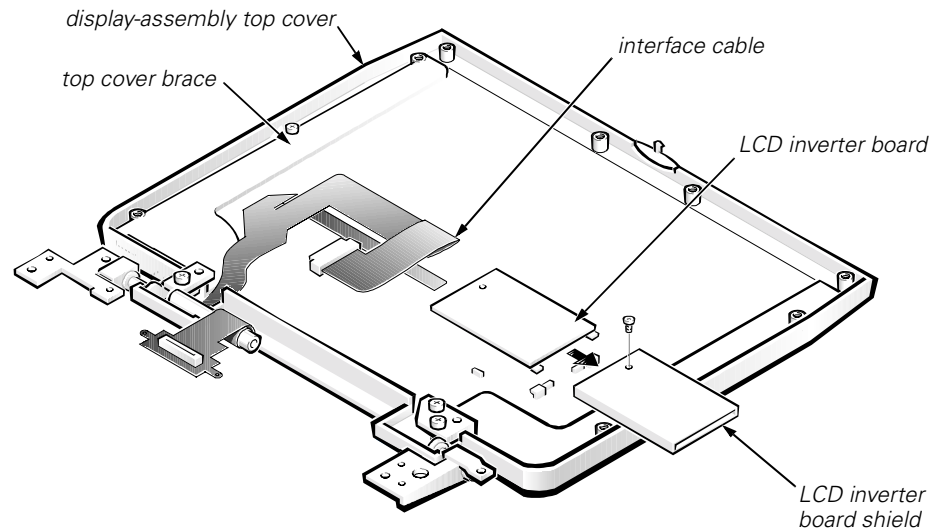

Figure 22. LCD Inverter Board Removal (13.3-Inch Display)
5. If you are removing the display-assembly interface cable from a 13.3-inch display, remove the left top-cover brace from the display-assembly top cover (see Figure 22).